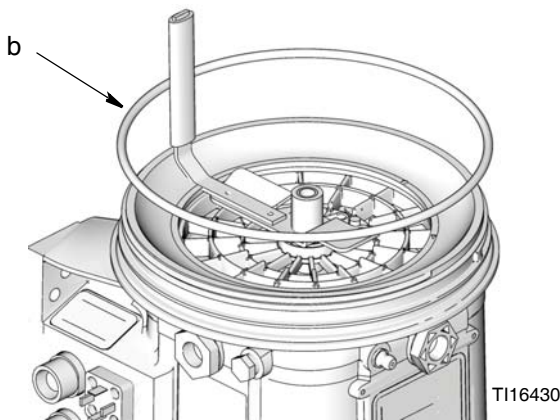

FIG. 3
4. Remove reservoir (a) and o-ring (b) from (FIG. 3). Discard o-ring (b).
1. Grease new o-ring (3) (included in kit) and install o-ring in ricer plate groove (c) (FIG. 3).